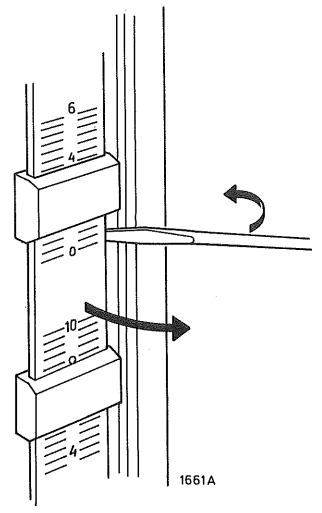

Fig. 4
REPAIR HINTS (see Figs. 4, 5, 6, 7 and 8)
- Replacing the indication strips with slide buttons (see Figs. 4 and 5).